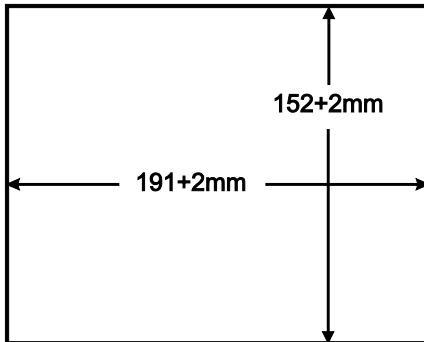

Figure 8: Cut out Dimensions
3. Following the **inside** edge of the template, cut a hole in the table surface with a sabre or keyhole saw according to the dimensions shown in Figure 8 (not to scale).